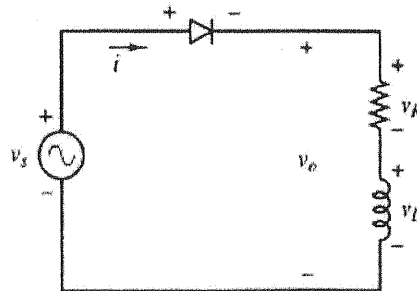

Figure 2
- a. Sketch the waveform for the circuit shown in Figure 2 below by using **APPENDIX 1**.